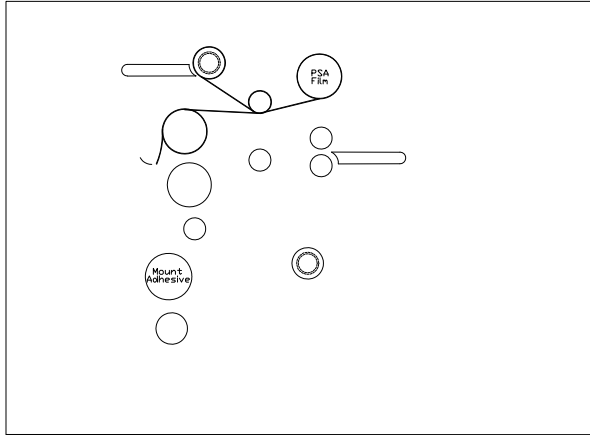

FIGURE 22
2. Load the rolls of film as illustrated in (Fig. 22). Ensure no brake tension is applied to the film shafts.
5. Make two full wraps around the rewind tube, and then score the laminate without cutting the release liner. Pull the laminate down allowing it to drape over the upper roller (Fig. 22).